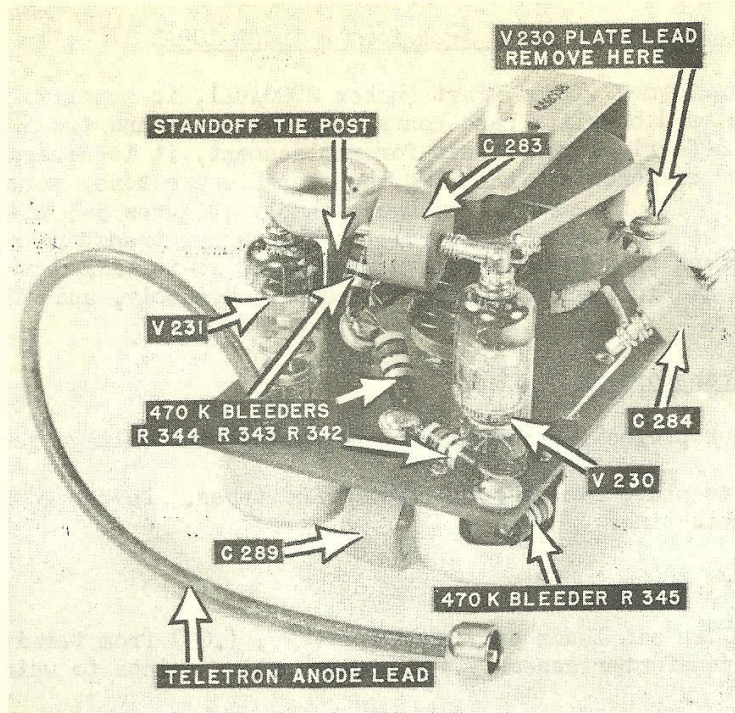

Figure 5-3. Horizontal Output Transformer Assembly
2. Re-install above items on the new transformer assembly, following steps a through j in reverse order, using figures 5-3 and 5-4 as a guide. Take care to leave no sharp points of solder. Round off all soldering to prevent corona discharge.
3. Mount transformer assembly in receiver chassis, following "Removal of Transformer" procedure (I) in reverse order.